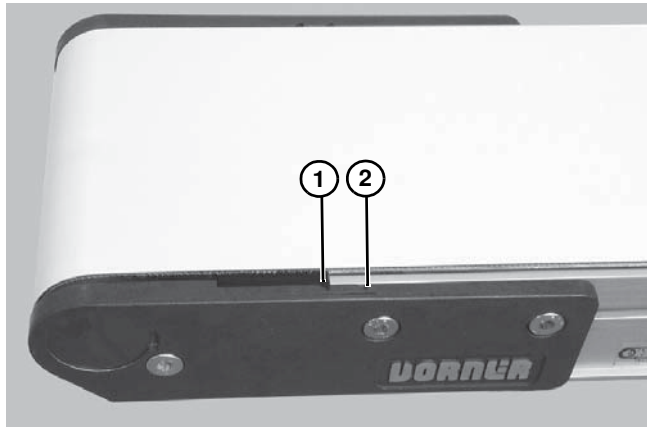

Figure 55
2. Adjust head plate assembly so end of conveyor frame aligns with or between the head plate tensioning marks (**Figure 55, item 1 & 2**). Replace belt if proper tensioning can not be obtained while aligning the end of the conveyor frame with or between the tensioning marks. See NOTE.